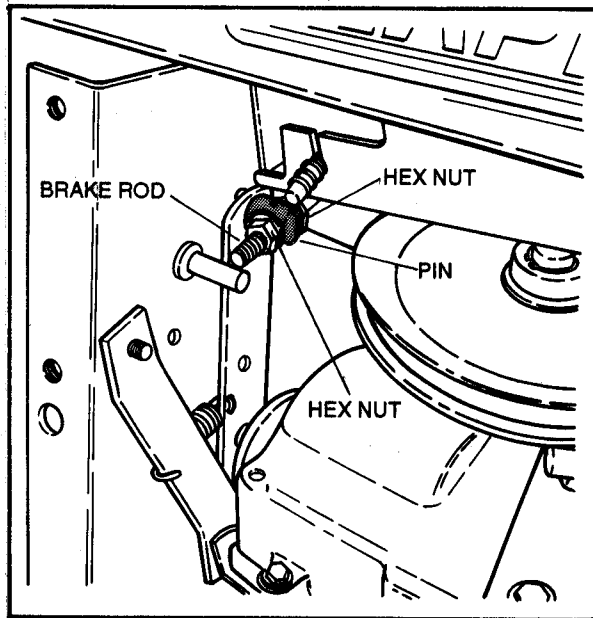

FIGURE 16
2. To adjust brake action: Turn locknut on brake rod clockwise to make braking more responsive. Turn locknut counterclockwise if slower braking action is desired. See Figure 16.